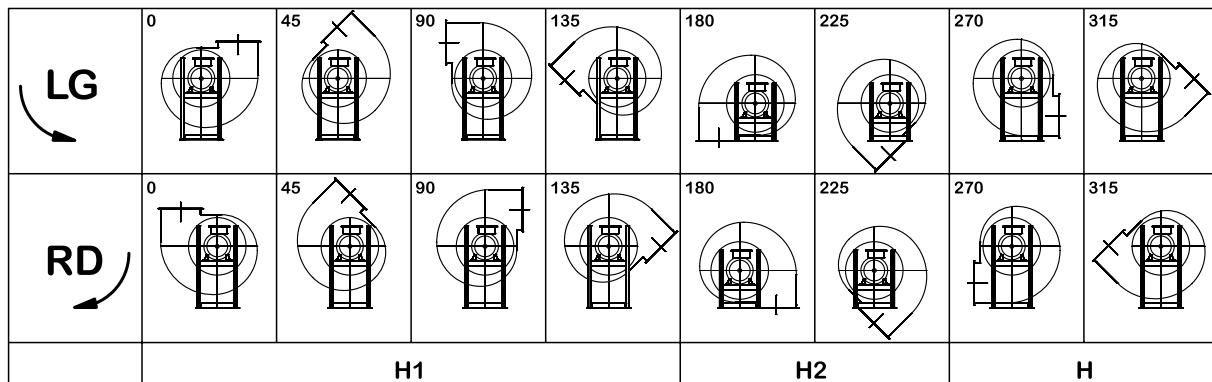
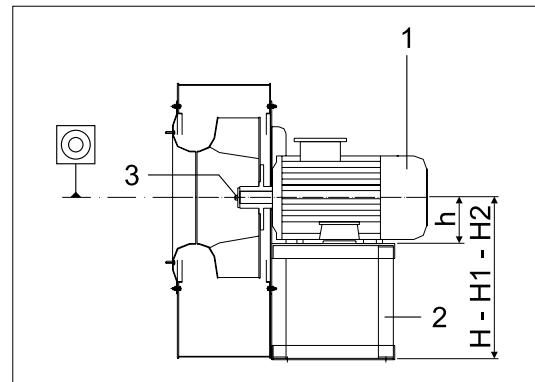

FIG. 13 (Orientation)
FIG. 16 (Assembling the motor on the base)
5.2.1- Checks before assembly (TAB. 8 and FIG. 13)
3	For the models supplied assembled, verify the correct orientation of the case (0°, 45°, 90°...) and the correct impeller rotation direction (LG = counter-clockwise RD = clockwise) that may be identified by an adhesive label (arrow - see FIG. 33) applied externally. N.B. The correct orientation of the case has to be verified in the "Orientation table" given in the related "paper catalogs" (see an example in FIG. 13). The identification of the impeller rotation direction has to be verified looking at the same from the electric motor side.
7	Make sure that the height of the electric motor axis (FIG. 16 - Ref. h) corresponds to the height of the base hole of the upper base side.
8	Make sure that the measure H or H1 or H2 is the requested one (s. FIG. 16 - Ref. H - H1 - H2 and given in the "Orientation" table, in the "paper catalogs", on the page "Overall dimensions and weights" or on the website - see example FIG. 13).
5.4.1- Assembling the electric motor on the base (FIG. 16)
- Place the electric motor (FIG. 16 - Ref. 1) on the base bedplate (FIG. 16 - Ref. 2) inserting the electric motor shaft (FIG. 16 - Ref. 3) in the base hole;
- Verify that the hole and the electric motor shaft are coaxial and make sure that the height of the electric motor shaft leaning on the base matches the height of the case hole from the base bedplate (FIG. 16 - Ref. h);
In large size fans, the base is directly welded to the case; while in the medium / small ones, the case (FIG. 21 - Ref. 3) has to be fastened to the base (FIG. 21 - Ref. 4) by means of bolts. It is compulsorily to fasten the case to the base according to the orientation required upon order (FIG. 13).